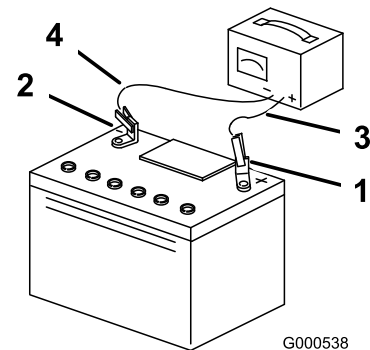

Figure 62
5. When the battery is fully charged, unplug the charger from the electrical outlet, and disconnect the charger leads from the battery posts (Figure 62).